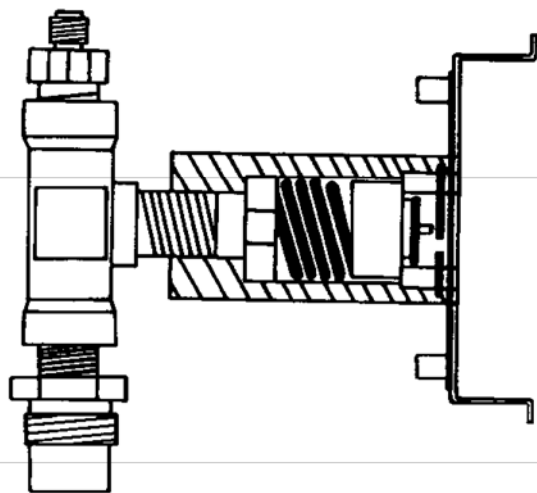

Figure 15
1. Secondary check is pushed against rubber bushing spring to form a gas-tight seal when front body assembly is not attached. See Figure 15.